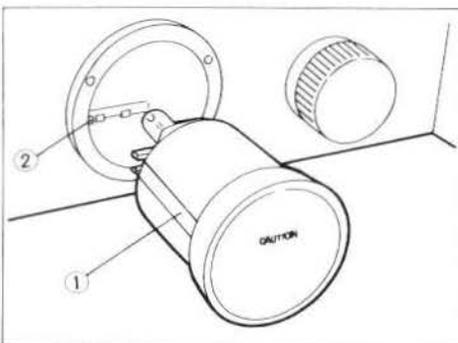

Fig. 19
4. Aligning the positioning pin ② on the microscope stand with the positioning groove ① of the bulb socket, insert the socket into the microscope stand. (Fig. 19)